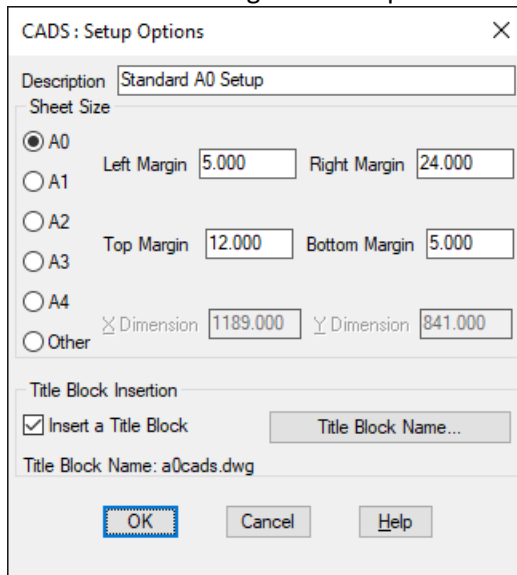

Figure 2.2 Setup Options Dialogue Box
The CADS Setup Utility dialogue box has a Redefine button which opens a further dialogue box (the CADS Setup Options dialogue box-Figure 2.2) in which you can alter the settings to suit your own requirements. If an existing setting is highlighted, then its data will appear in the dialogue box ready for editing as described in “Setting up the options”.
Whether you are redefining an exiting setup or creating a new one, the options are selected from the CADS Setup Options dialogue box shown in Figure 2.2 and described in the following paragraphs: -
- ▶ To ensure that the setup will be for Normal Mode, you can check this option's current settings by picking the Redefine button. This will access the CAD Setup Options dialogue box as shown in Figure 2.2. You should ensure that the current settings do not have the Paper Space Setup activated i.e. the check box does not have an X in it. Once you are happy with the settings, exit the dialogue box via the OK button;
- ▶ To ensure that the setup will be for Fast Mode, check this option's current settings by picking the redefine button. This will access the CADS: Setup Options dialogue box as shown in Figure 2.2. Ensure that the current settings have the Paper Space Setup activated, i.e. the check box has an X in it. Once you are happy with the settings, exit the dialogue box using the OK button.